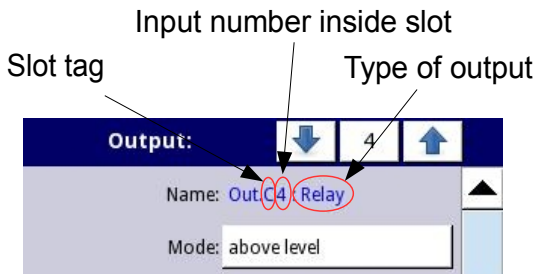

Fig. 7.66. Description of **Name** parameter in **Built-in outputs** menu
- **Name** - each outputs already has a name given by the device and user cannot change it - see Fig. 7.66,